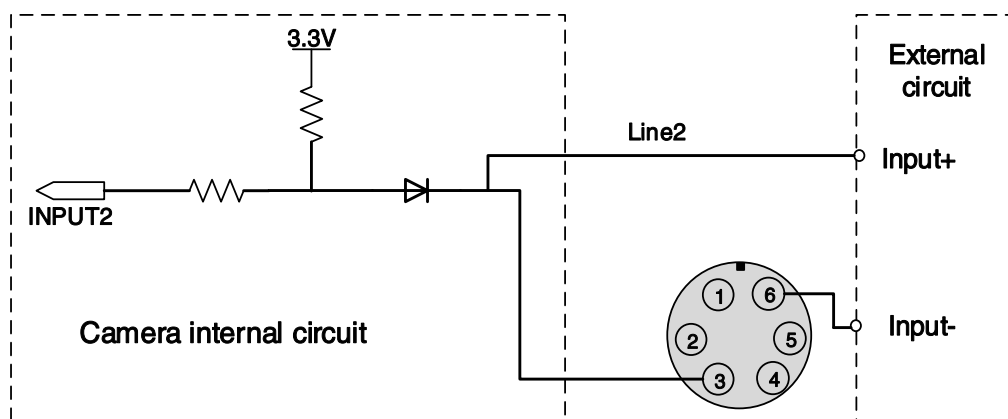

Figure 7-7 Internal equivalent circuit of camera when Line2 is configured as input
- When Line2/3 is configured as input, the internal equivalent circuit of camera is shown in Figure 7-7, taking Line2/3 as an example